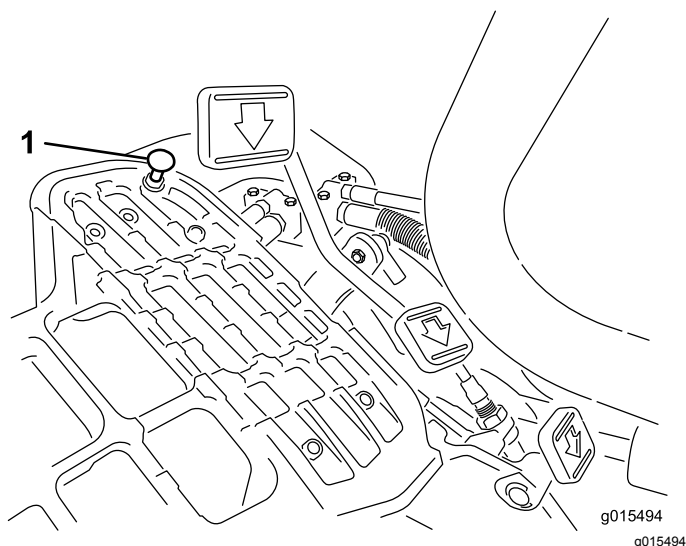

Figure 35
To obtain the maximum-transport speed, put the functional control lever in the TRANSPORT position and press down on the traction pedal. If the pedal contacts the stop (Figure 35) before you feel tension on the cable, perform the following adjustment procedure:
1. Put the functional-control lever in the TRANSPORT position and loosen the locknut securing the pedal stop to the floor plate (Figure 35).